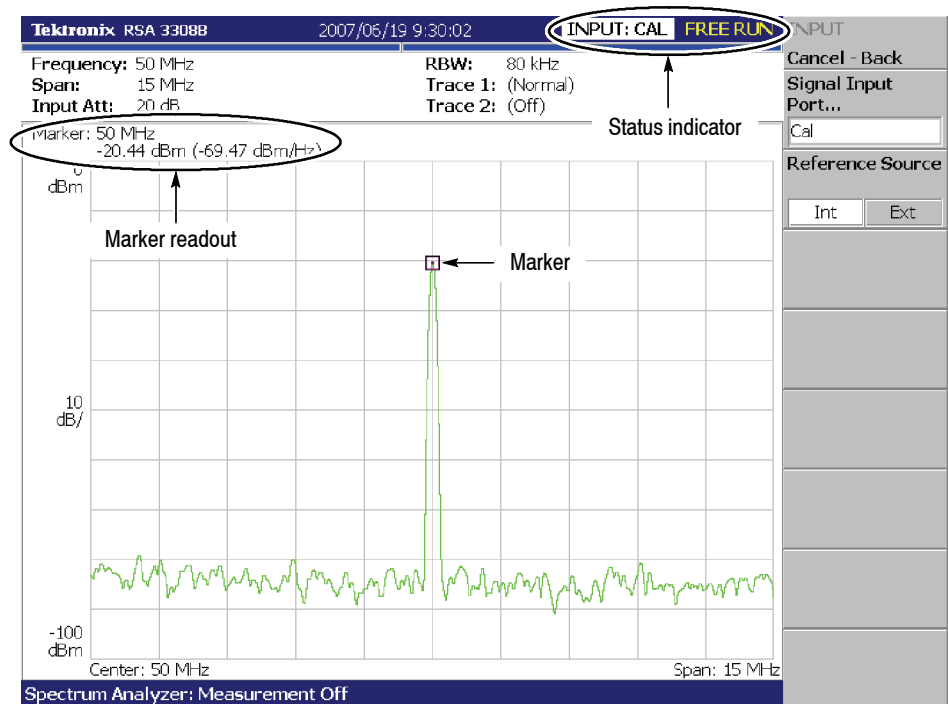

Figure 3-1: Spectrum of the calibration signal (50 MHz, -20 dBm)
- d. Check that “INPUT: CAL” and “FREE RUN” are displayed in the status indicator at the upper right of the screen (see Figure 3-1).
- a. Press the **Peak** key on the front panel to place the marker on the peak (see Figure 3-1).